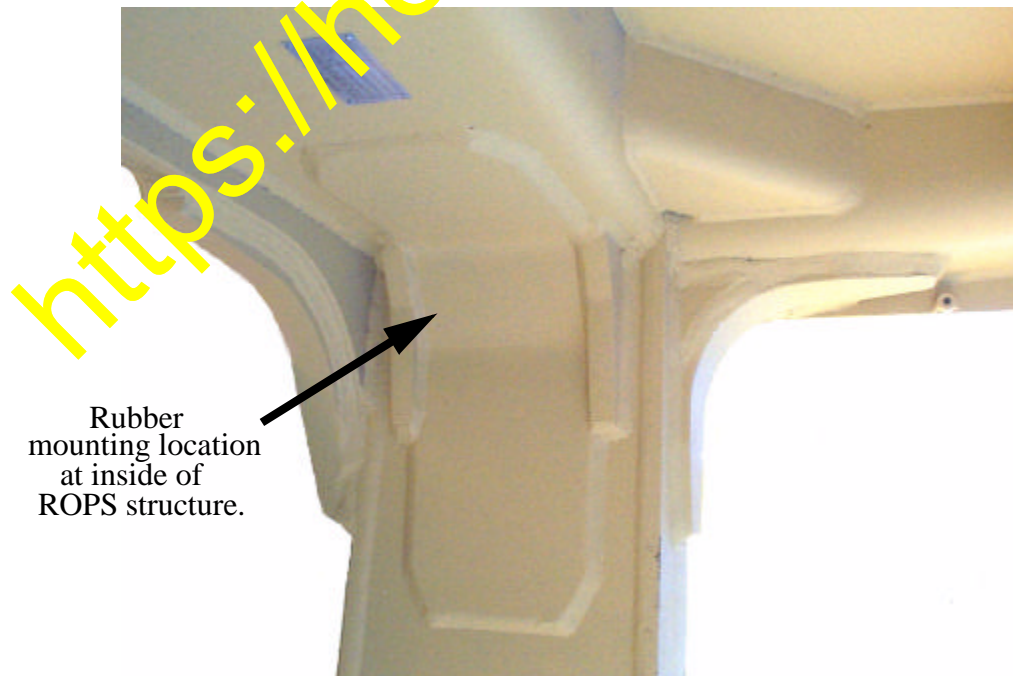
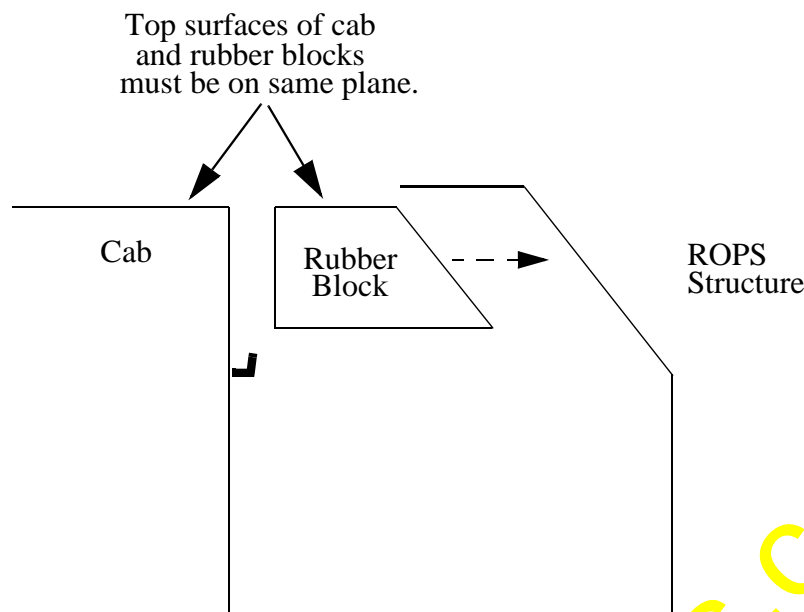
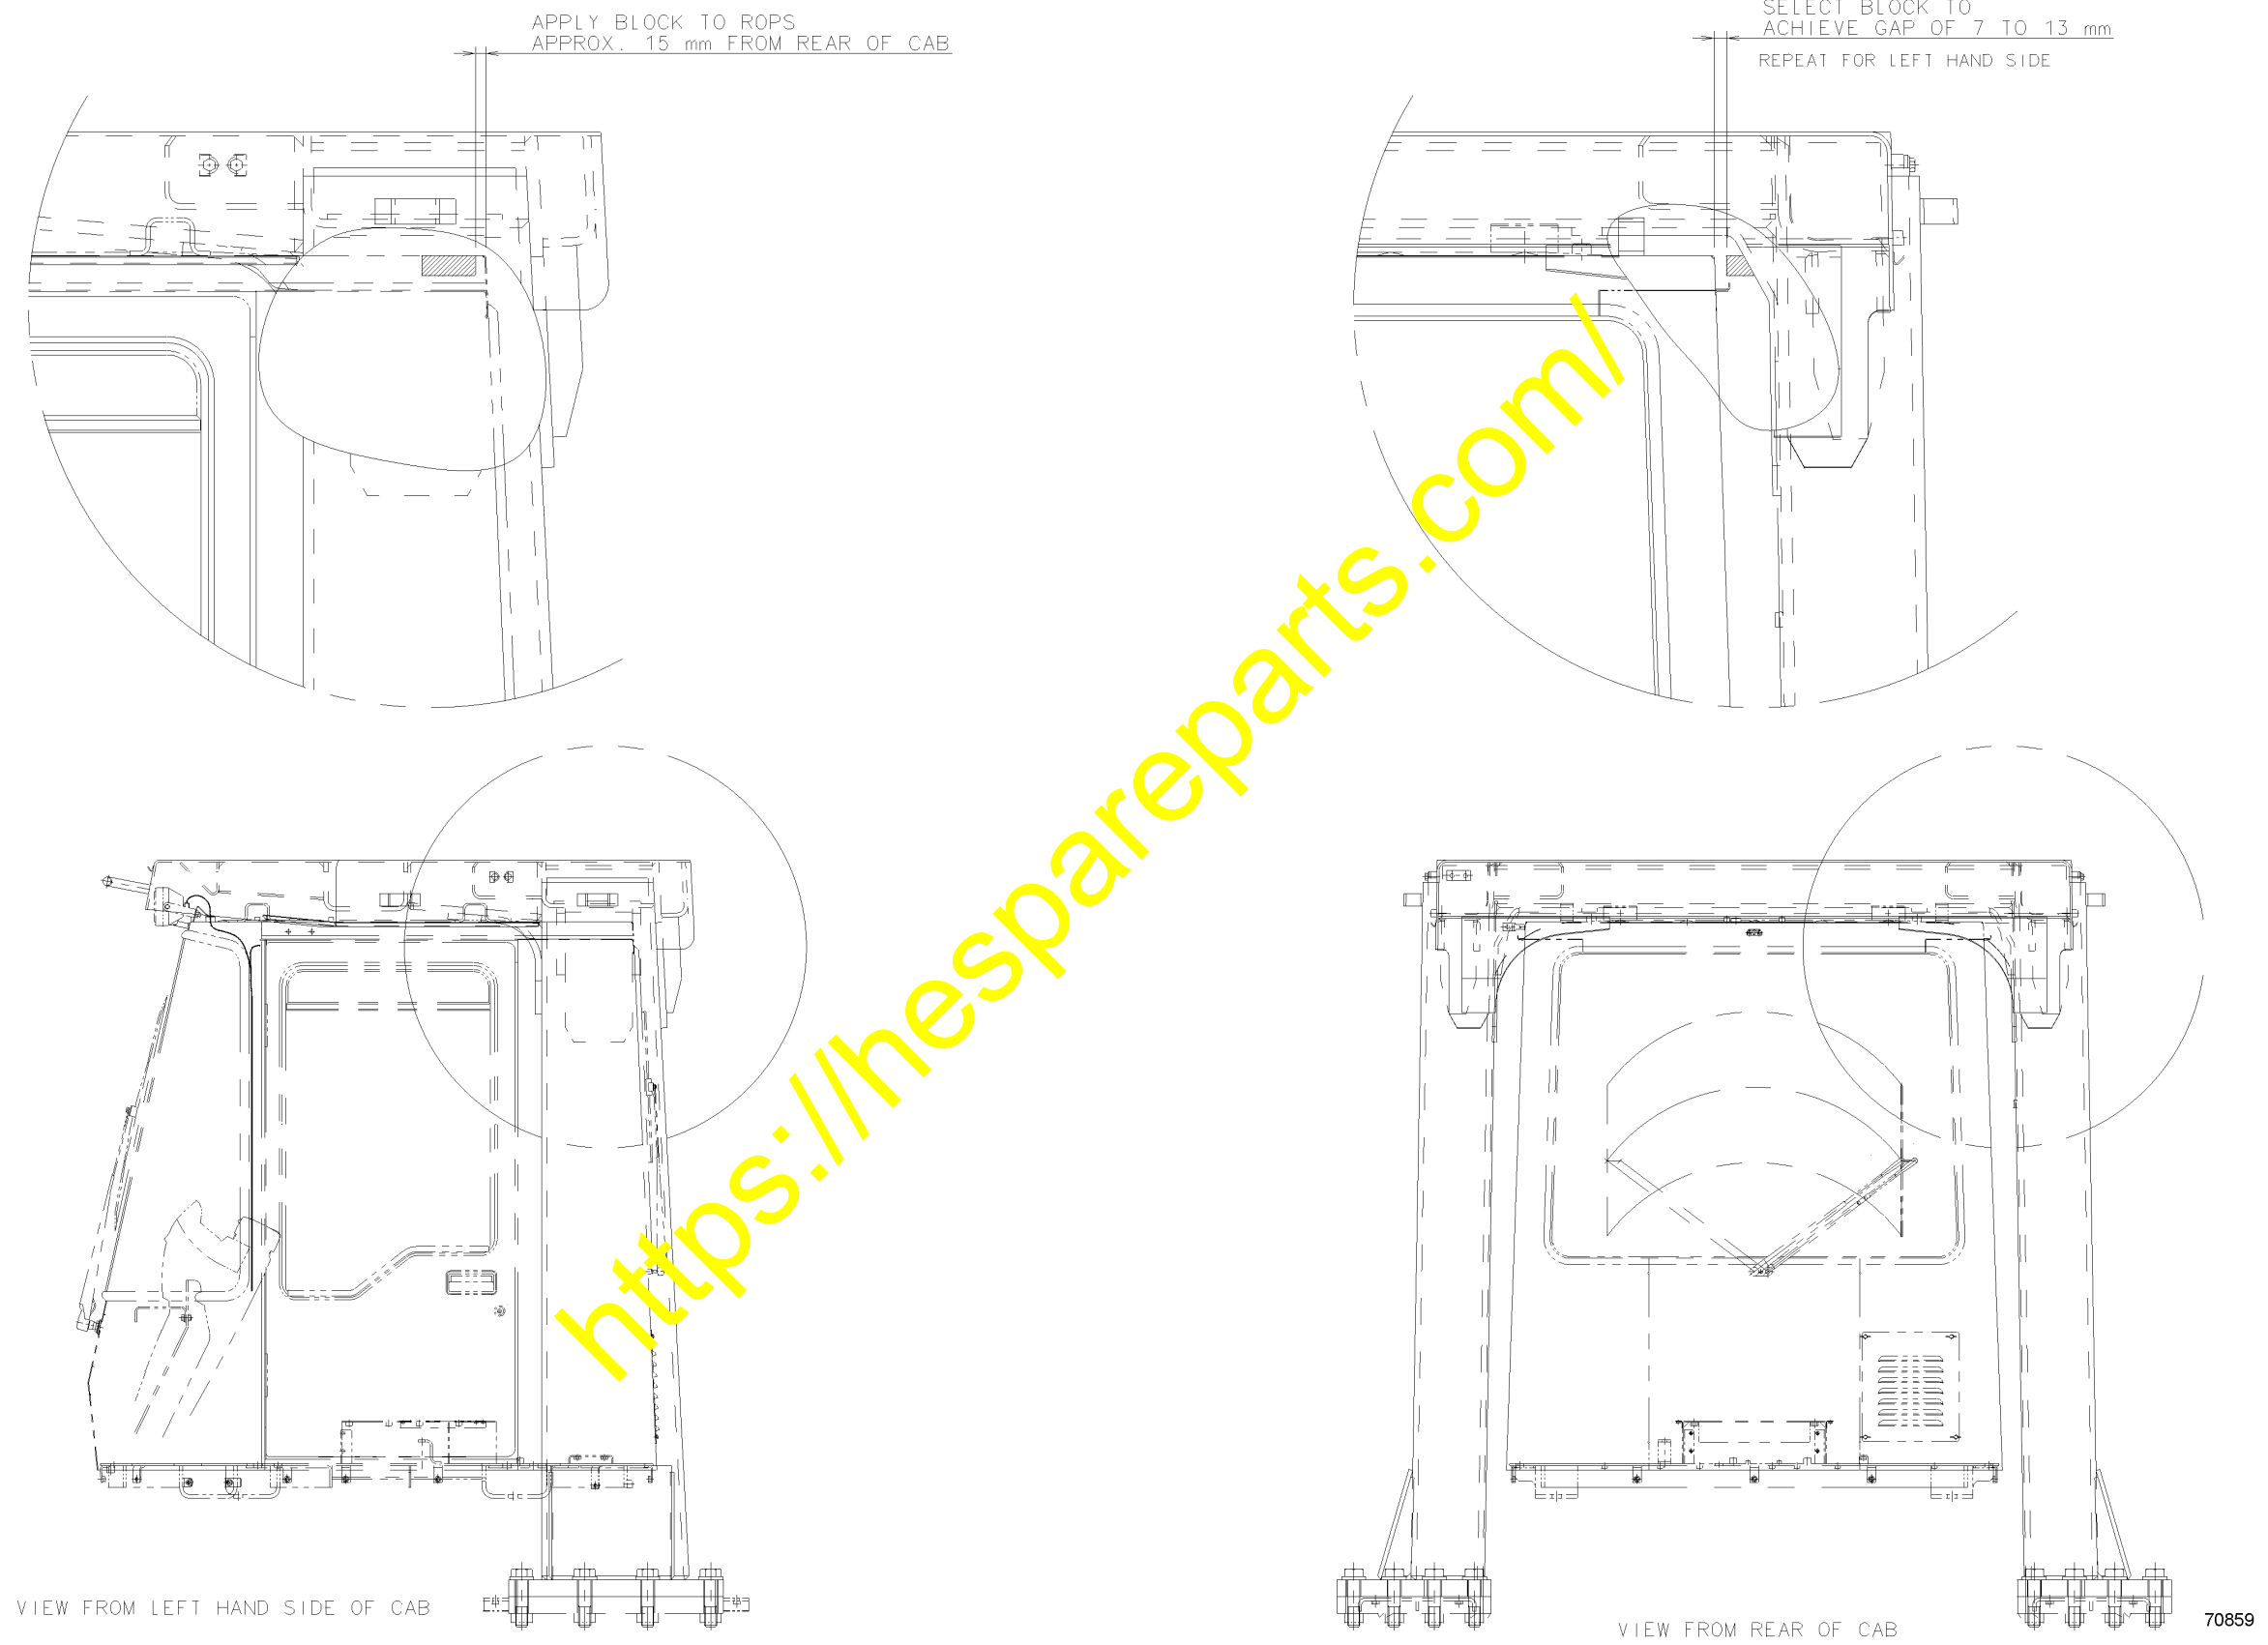

FIGURE 2. RUBBER BLOCK INSTALLATION LOCATION
FIGURE 3. RUBBER BLOCK ORIENTATION
FIGURE 4. CAB/ROPS BUMPER INSTALLATION
1. Test fit each size of rubber block between the cab and ROPS. Refer to Figure 2 for the mounting location of the blocks. Upon final installation of both rubber blocks, the top surfaces of the blocks and the cab must be level. Refer to Figure 3. The gap between the cab and the blocks must be 10 ± 3 mm (0.39 ± 0.12 in.). The blocks must also be positioned approximately 15 mm (0.59 in.) from the rear of the cab. Refer to Figure 4. Choose two blocks that meet these requirements for installation. Etch location markings for block installation on the ROPS.